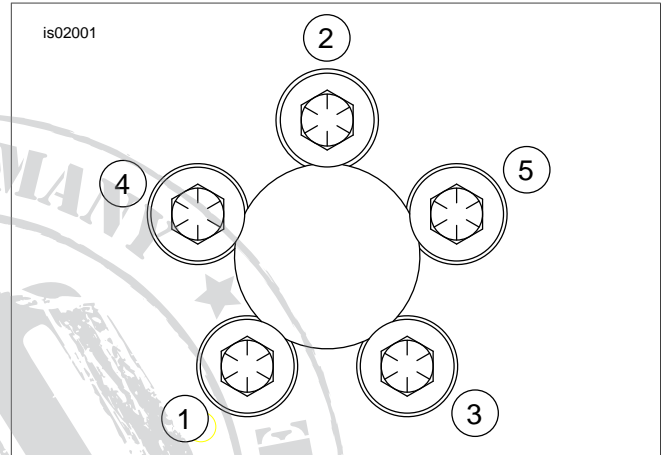

Figure 1. Torque Sequence, Sprocket
4. See Figure 1. Tighten the screws in the sequence shown to 23 ft-lbs (31.2 Nm).
7. Using the marks as a guide, and using the tightening sequence shown in Figure 1, turn each screw an additional 60 degrees, clockwise.